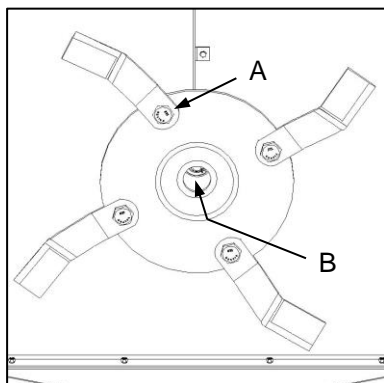
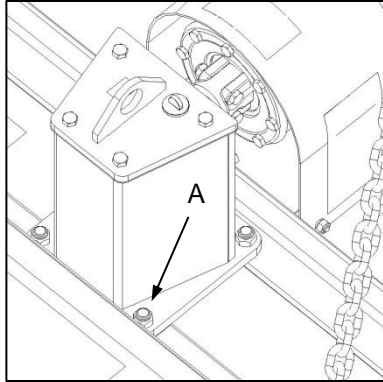
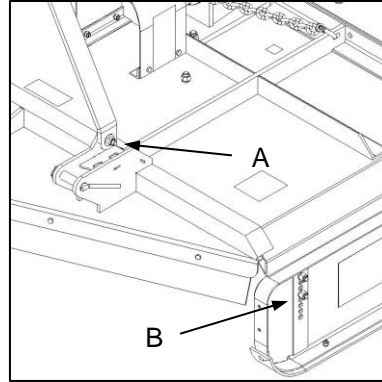

Fig. 1 (F40-120V)
Fig. 3
Fig. 4
- ✔ Check all fasteners for tightness. This includes special attention to safety-critical fasteners such as blade bolts and nuts (Fig. 1-A / 2-A), cutting gear mounting bolts (Fig. 1-B / 2-B), gearbox mounting bolts (Fig. 3-A), topmast mounting and pivot bolts (Fig. 4-A) and side panel retaining bolts (Fig. 4-B).
- ✔ Verseker dat alle hegstukke vas is. Dit sluit in spesiale aandag aan veiligheidskritieke hegstukke soos lem-boute en -moere (Fig. 1-A / 2-A), snyemeganismemonteerboute (Fig. 1-B / 2-B), ratkasmonteerboute (Fig. 3-A), topmasmonteer- en -spilboute (Fig. 4-A) en sypaneelmonteerboute (Fig. 4-B).